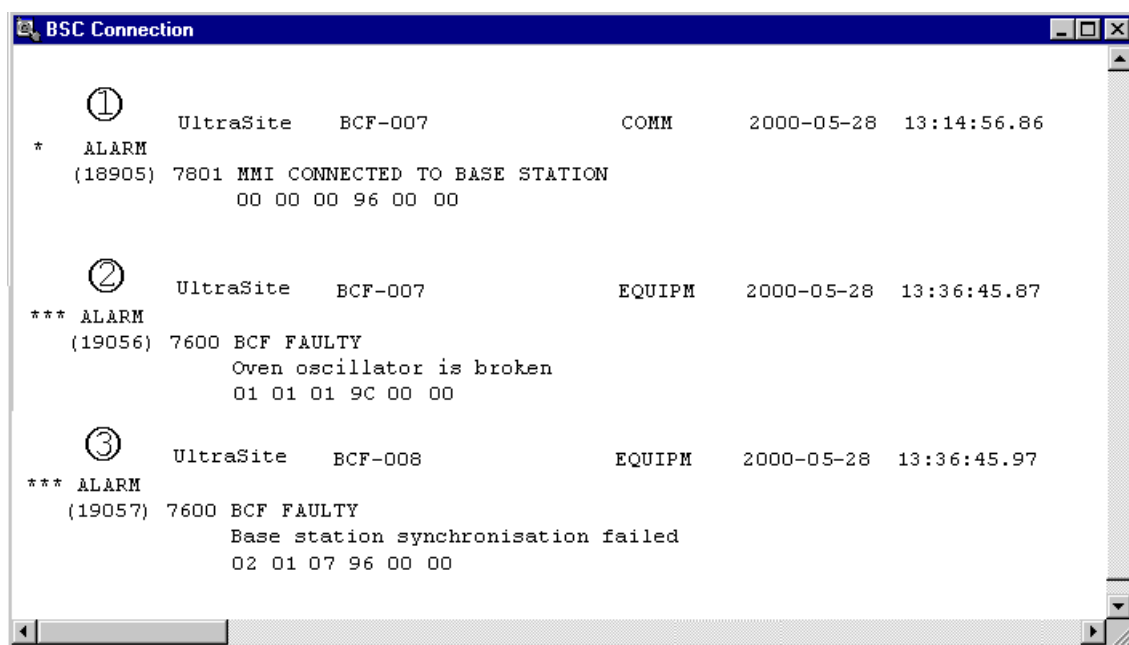
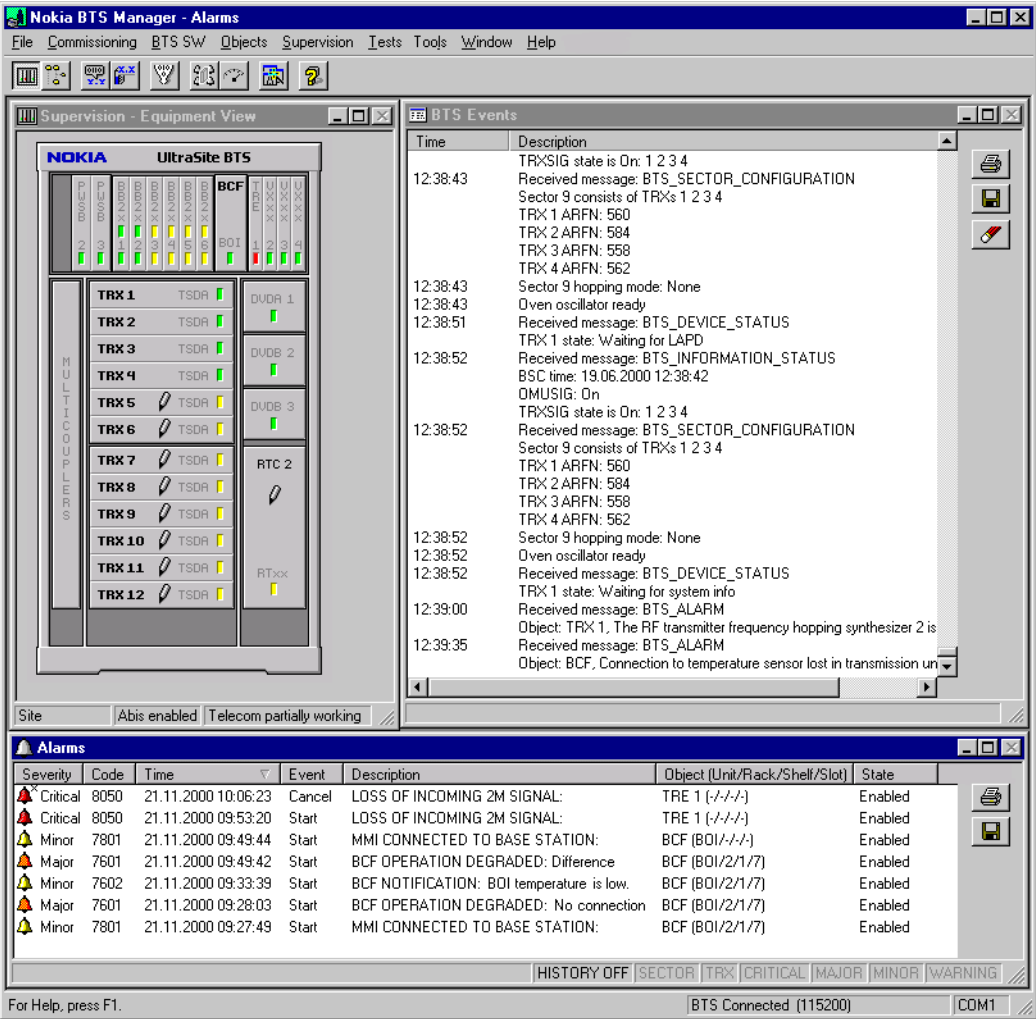

Figure 1. Examples of active alarms as seen at the BSC
Figure 2. Nokia BTS Manager desktop showing the alarms in the Alarms window
- Figure 1. Examples of active alarms as seen at the BSC **9**
- Figure 2. Nokia BTS Manager desktop showing the alarms in the Alarms window **11**
Nokia UltraSite EDGE Base Station alarms issued at the BSC or NMS/2000 have a four-digit alarm number and an alarm name, and an optional fault reason (see Figure 1). For other fields in Figure 1, please refer to BSC documentation.
The text under the alarm name gives the fault reason that has caused the alarm, e.g. see 2. in Figure 1: Oven oscillator is broken.
In 2. in Figure 1 the fault reason is different although the alarm number is the same as in 3. in Figure 1. Different faults may have the same effect on the operation of a base station object, therefore they have the same alarm number and name. The fault reason specifies the fault and helps in troubleshooting.
Figure 2 shows how alarms (number, name and fault reason) are seen in the Alarms window on Nokia BTS Manager desktop. See e.g. BOI's location (location number 2/1/7) in the rack 2, shelf 1, slot 7, in Figure 2.
Figure 2 does not represent a real situation and should be taken only as an example.
2. Find the fault reason (see 2. in Figure 1, or Alarms window in Figure 2) in the *Fault reason* field in the alarm description table.
5. If there is no fault reason text with the alarm (see 1. in Figure 1), refer to the correct alarm description table and follow the possible instructions given in the *Instruction* field.